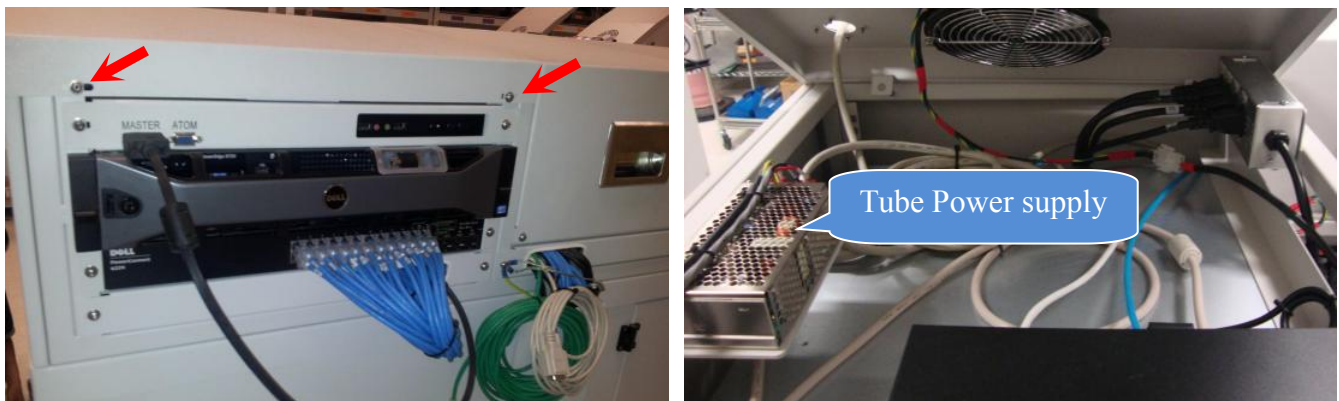

Figure 2 Tube Power Supply
4. Open top server rack. Identify the power supply which locate as below Figure 2